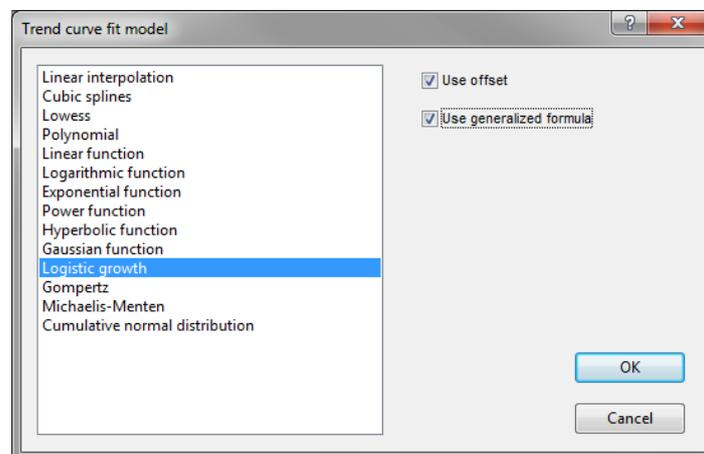

Figure 12: Set trend curve model.
1. In the *Trend* type window select **Settings > Default trend curve model...** to call the *Trend curve fit model* dialog box (see Figure 12).